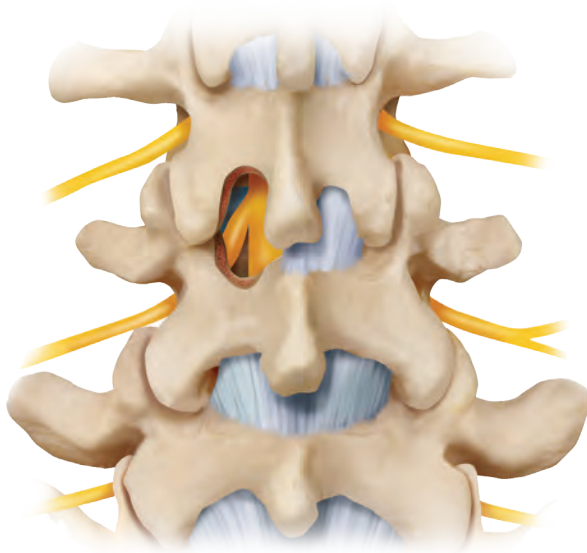

Figure 2
- If a direct decompression is desired, perform a conservative laminotomy, partial facetectomy, foraminotomy or other decompression procedure as needed (**Figure 2**).